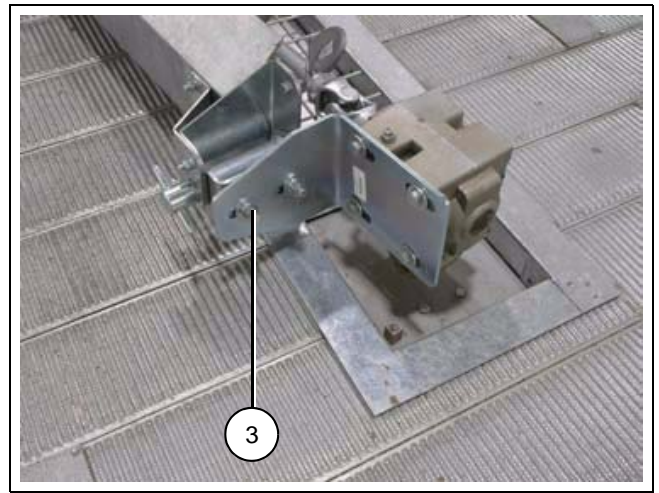

Figure 4W
4. The sweep back plate can be adjusted in and out at the center gearbox assembly to achieve desired sweep flight to sweep back plate spacing. (See Figure 4W.)